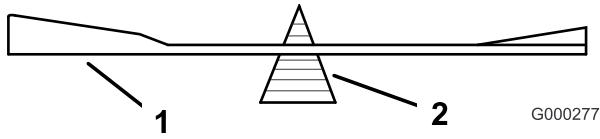
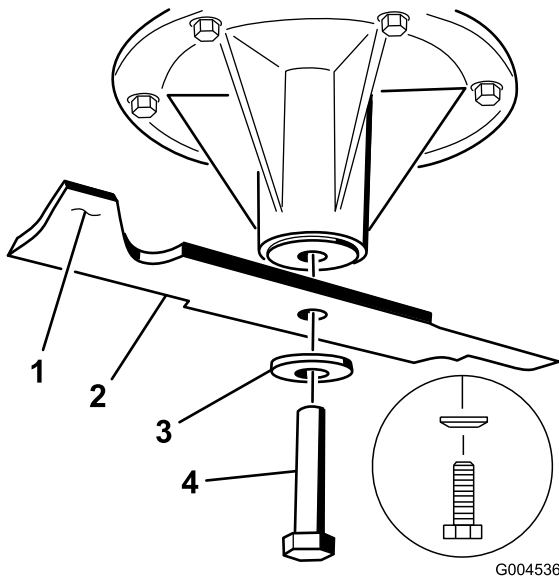

Figure 94
Figure 95
- Check the balance of the blade by putting it on a blade balancer (Figure 94). If the blade stays in a horizontal position, the blade is balanced and can be used. If the blade is not balanced, file some metal off the end of the sail area only (Figure 95). Repeat this procedure until the blade is balanced.
- Install the blade onto the spindle shaft (Figure 95).
- Install the spring disk and blade bolt. The spring disk cone must be installed toward the bolt head (Figure 95). Torque the blade bolt to 115-150 N-m (85-110 ft-lb).